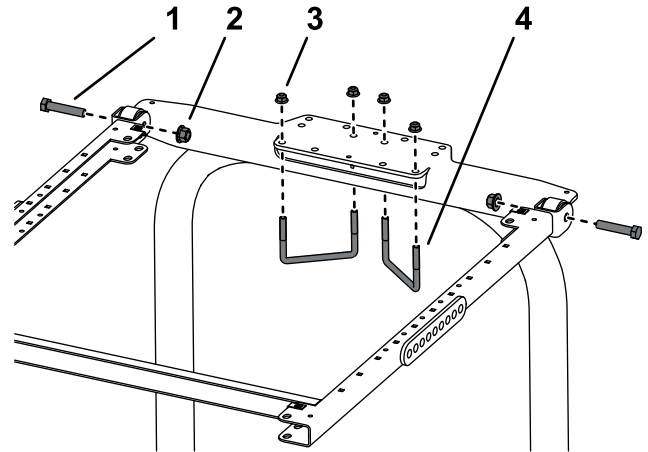

Figure 46
1. Position the ROPS-mount bracket onto the top of the turf sprayer roll bar (Figure 46).
2. Install the frame assembly to the ROPS-mount bracket (Figure 46).
3. Using the mounting holes shown in Figure 46, mount the ROPS-mount bracket to the top of the roll bar with 2 U-bolts (4-1/2 x 2-3/4 inches) and 4 flange nuts.